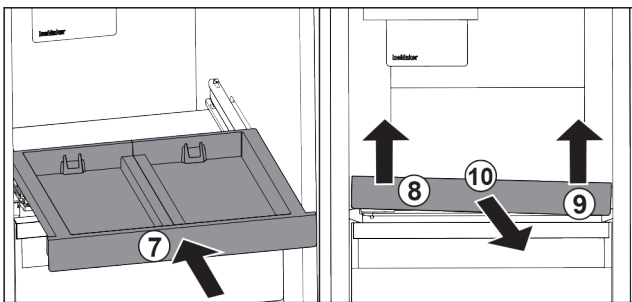

Fig. 120
- ▶ Slide in the pull-out board. Fig. 120 (7)
- ▶ Lift the pull-out board on the front left. Fig. 120 (8)
- ▶ Lift the pull-out board on the front right. Fig. 120 (9)
- ▶ Take out the pull-out board to the front. Fig. 120 (10)